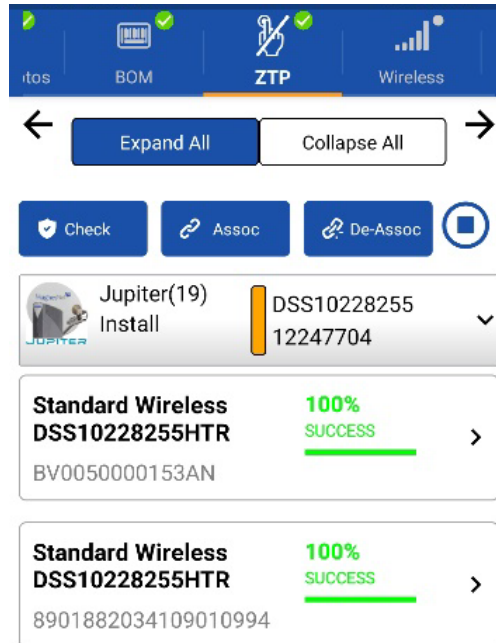

Figure 62: ZTP screen
1. When you reach the ZTP screen, first ensure that the correct site account number (SAN) is selected, and that the device type is correct (Figure 62). OASIS associates the device to the indicated SAN.
- a. Make sure that the device is connected to the internet, and then press the **Assoc** button as shown in (Figure 62). Alternatively, expand the device and select the individual Assoc button to complete the associations one at a time.